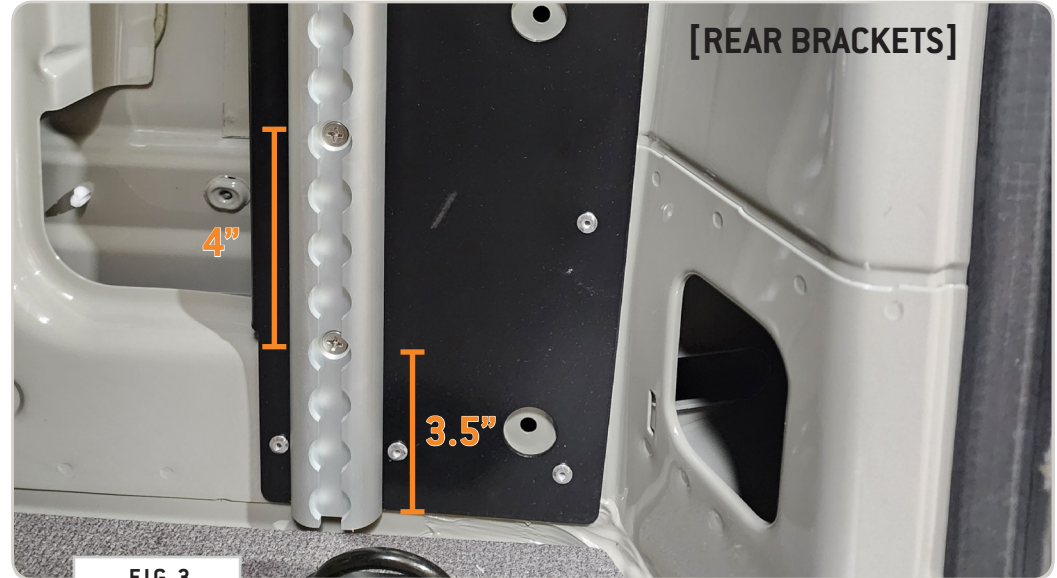

FIG 3
2.1 Identify L-Track Extrusions: See FIG 3 and 4 for relevant dimensions for determining which L-Tracks are spaced for the Front and Rear Bed Brackets.